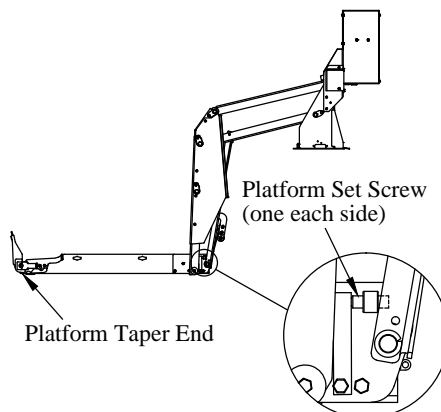

Figure 25: Platform.
3. **Adjust** the platform set screws until the platform taper end just rests on the ground (Figure 25).